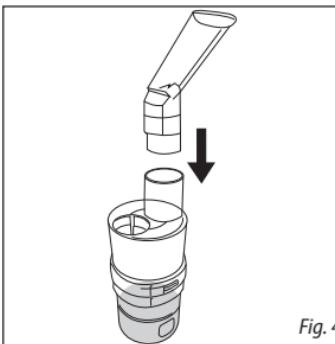

Fig. 4
- Attach the selected mouthpiece to the top of the nebulizer, taking care not to spill the medication in the cup, Fig 4.